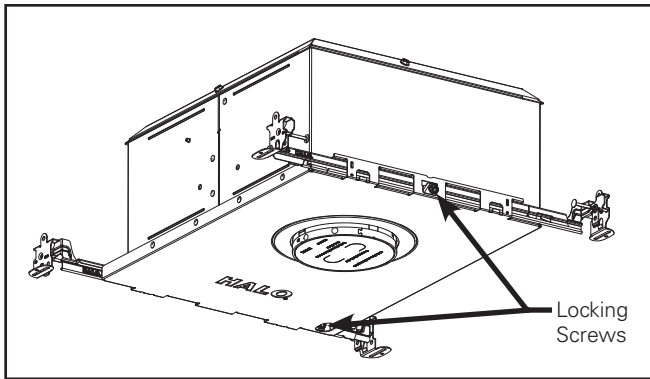

Figure 1.
Install hanger bars in orientation shown (Figure 1).
4. Position fixture on hanger bars. To secure fixture position in ceiling tighten hanger bar locking screw to lock fixture in place on bars (Figure 1).
5. Center fixture over opening. To secure fixture position in ceiling, tighten screws to lock fixture in place on bars. (Figure 1)